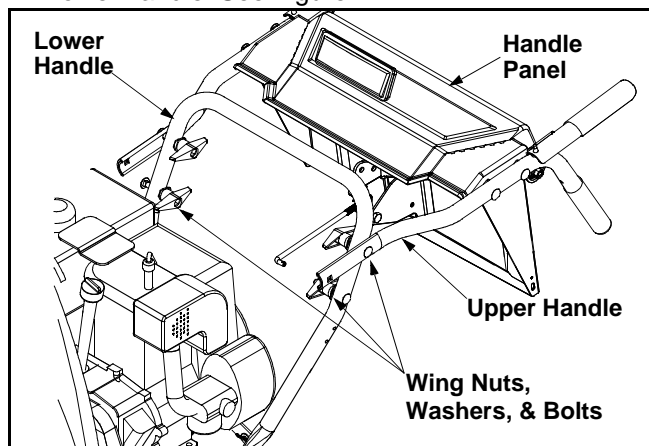

Figure 2
- Remove the **lower** two plastic wing knobs, cupped washers and carriage bolts from each side of the lower handle. See Figure 2.